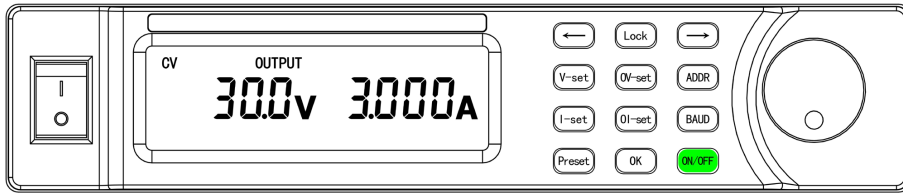

Fig.5-5
- Press OK key to confirm the above setup and exit voltage setup mode. Now the displayed voltage and current values are real output values (refer to Fig.5-5).